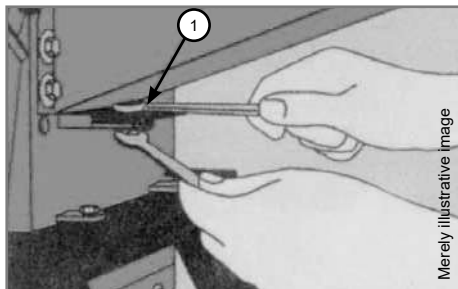
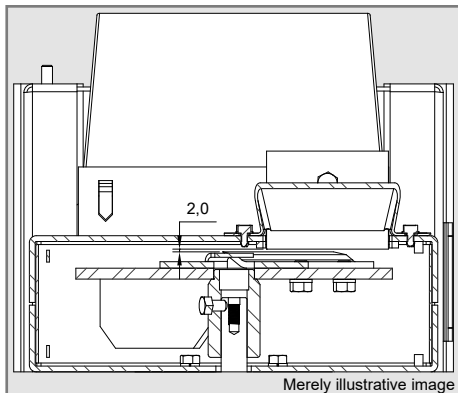
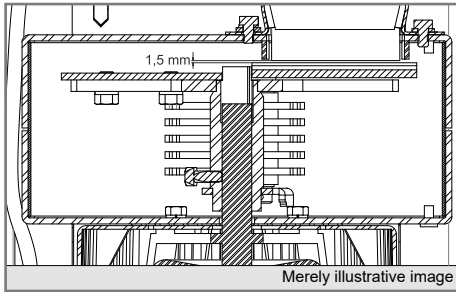

Fig. 7
Fig. 8
Fig. 9
The adjustment is done by loosening the hexagon nut (1) as in figure 7 and by displacing the counter cutting blade until the cutting blades pass at a distance of approximately 2.0 mm from the counter cutting blade for the shredder TRF 80G (figure 8) and 1.5 mm from the counter cutting blade for the other shredders shredders (figure 9).